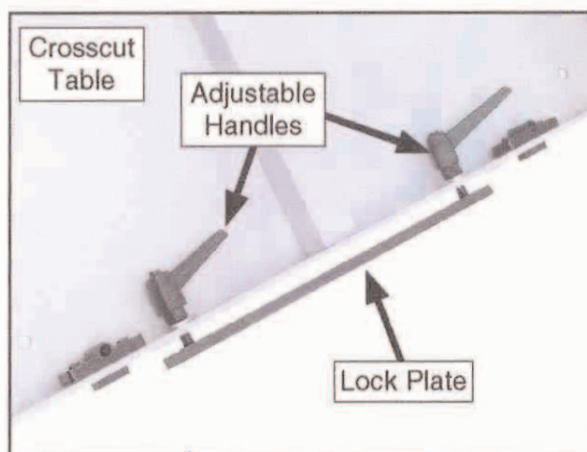

Figure 42. Adjustable handles threaded into lock plate to prepare for crosscut table installation.
1. Thread the adjustable handles, with 10mm flat washers, two or three turns onto the studs in the lock plate, as shown in Figure 42.